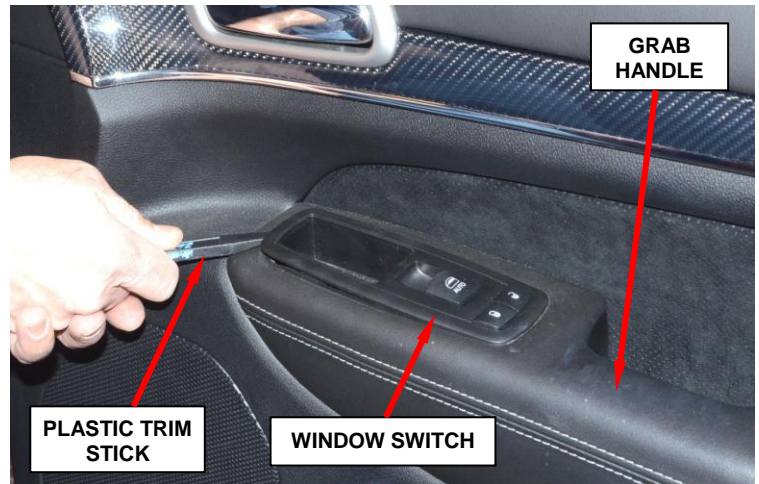

Figure 16 – Window Switch
4. Remove and save the window switch assembly (Figure 16).